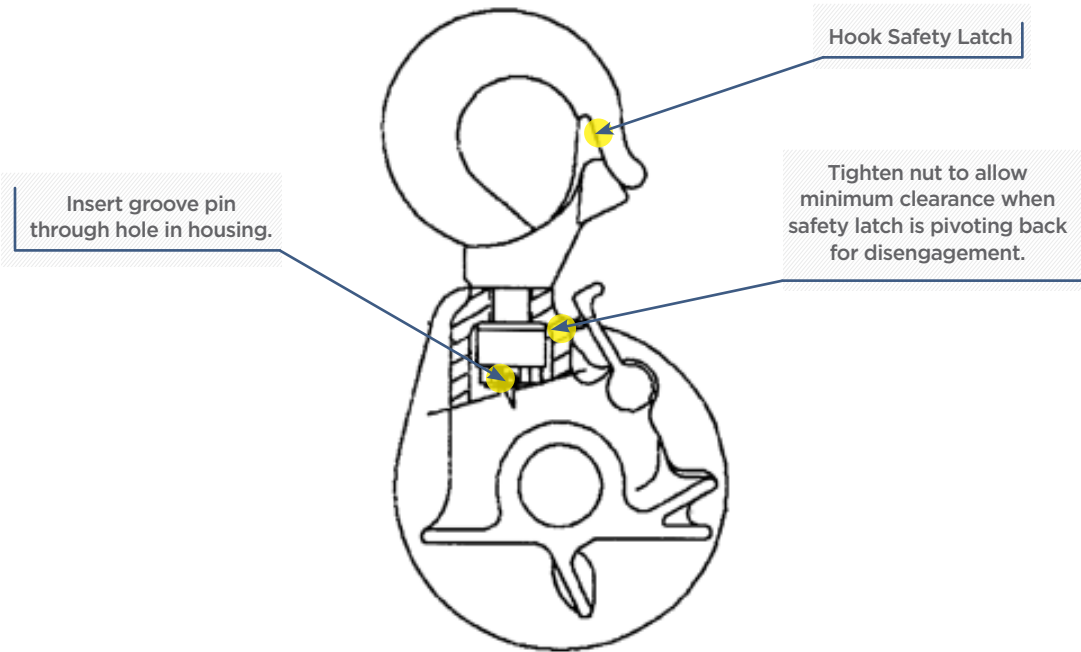

FIG. 7 Safety Hook Housing
(2) Housing Hook should be replaced if the hook has been sprung or bent by misuse. Refer to disassembly instructions for replacement procedure (page 17, step 9). Excessive hook play in the housing may be an indication that the bearing seat in the aluminum housing is worn, in which case, replace the housing. Refer to **Fig. 7** for correct replacement hook adjustment.